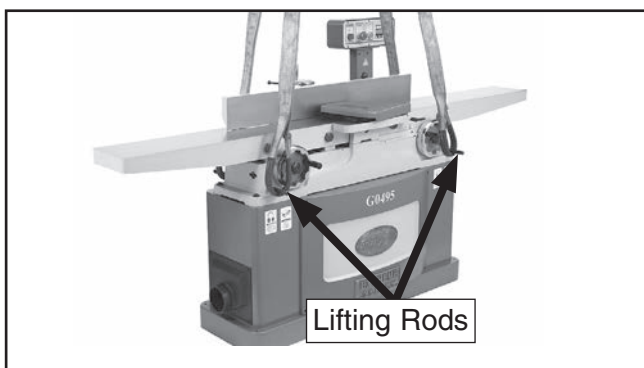

Figure 9. Model G0495X supported evenly by two lifting straps.
2. Wrap lifting straps around the lifting rods, as shown in **Figure 9**.